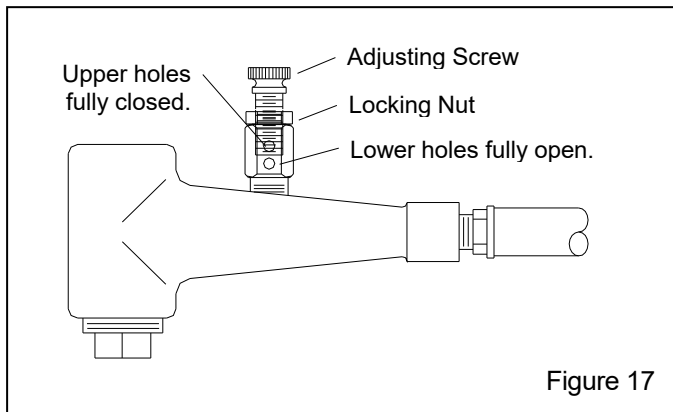

Figure 17
**5.3 Media-Air Mixture, Figure 17**
**5.3.2** If media does not flow smoothly, loosen the locking nut, and adjust the metering screw until the upper holes in the metering stem are closed off and the lower holes are fully open, as shown in Figure 17. This adjustment is a starting point.